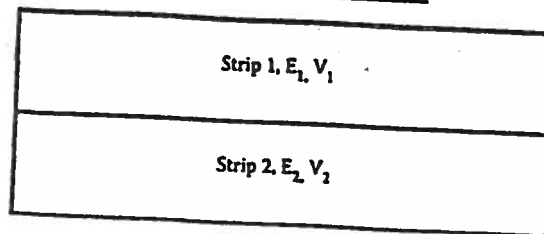

FIGURE 4.8
- 4.11 A beam is made of two bonded isotropic strips as shown in the Figure 4.8. The two strips are of equal thickness. Find the stiffness matrices $[A]$, $[B]$, and $[D]$.